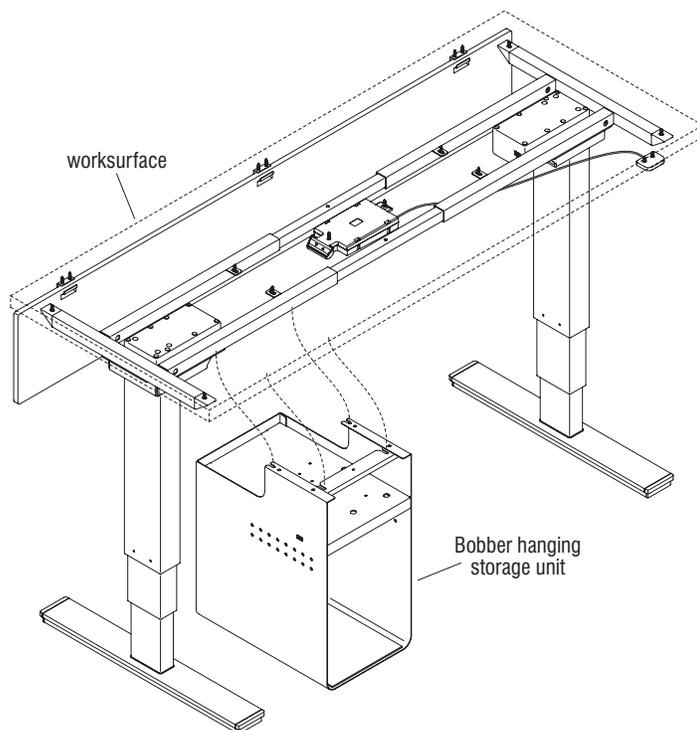

Figure 3
1. Determine the desired location to mount the Bobbr undermount storage unit to the worksurface (Figure 3).